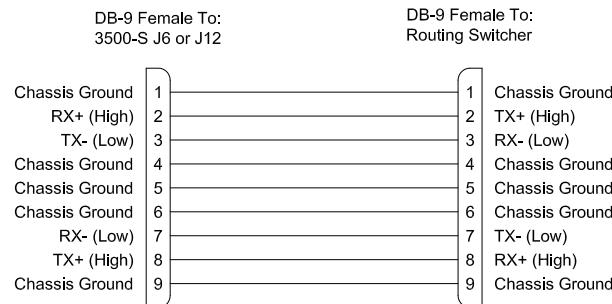

Figure 6. 3500-S RS-422 Serial Cable
- COM 3/PRC is the communications interface to a PRC type routing switcher system and is connected to a routing switcher with a serial port cable (Part No. 81-9028-0400-0) constructed as shown in Figure 6.